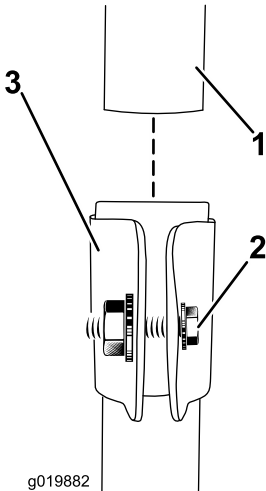

Figure 1
- Slide the upper pole into the lower pole, lining up the groove in the upper pole with the groove in the lower pole, and tighten the screw so that the upper pole remains secure during operation (Figure 1).